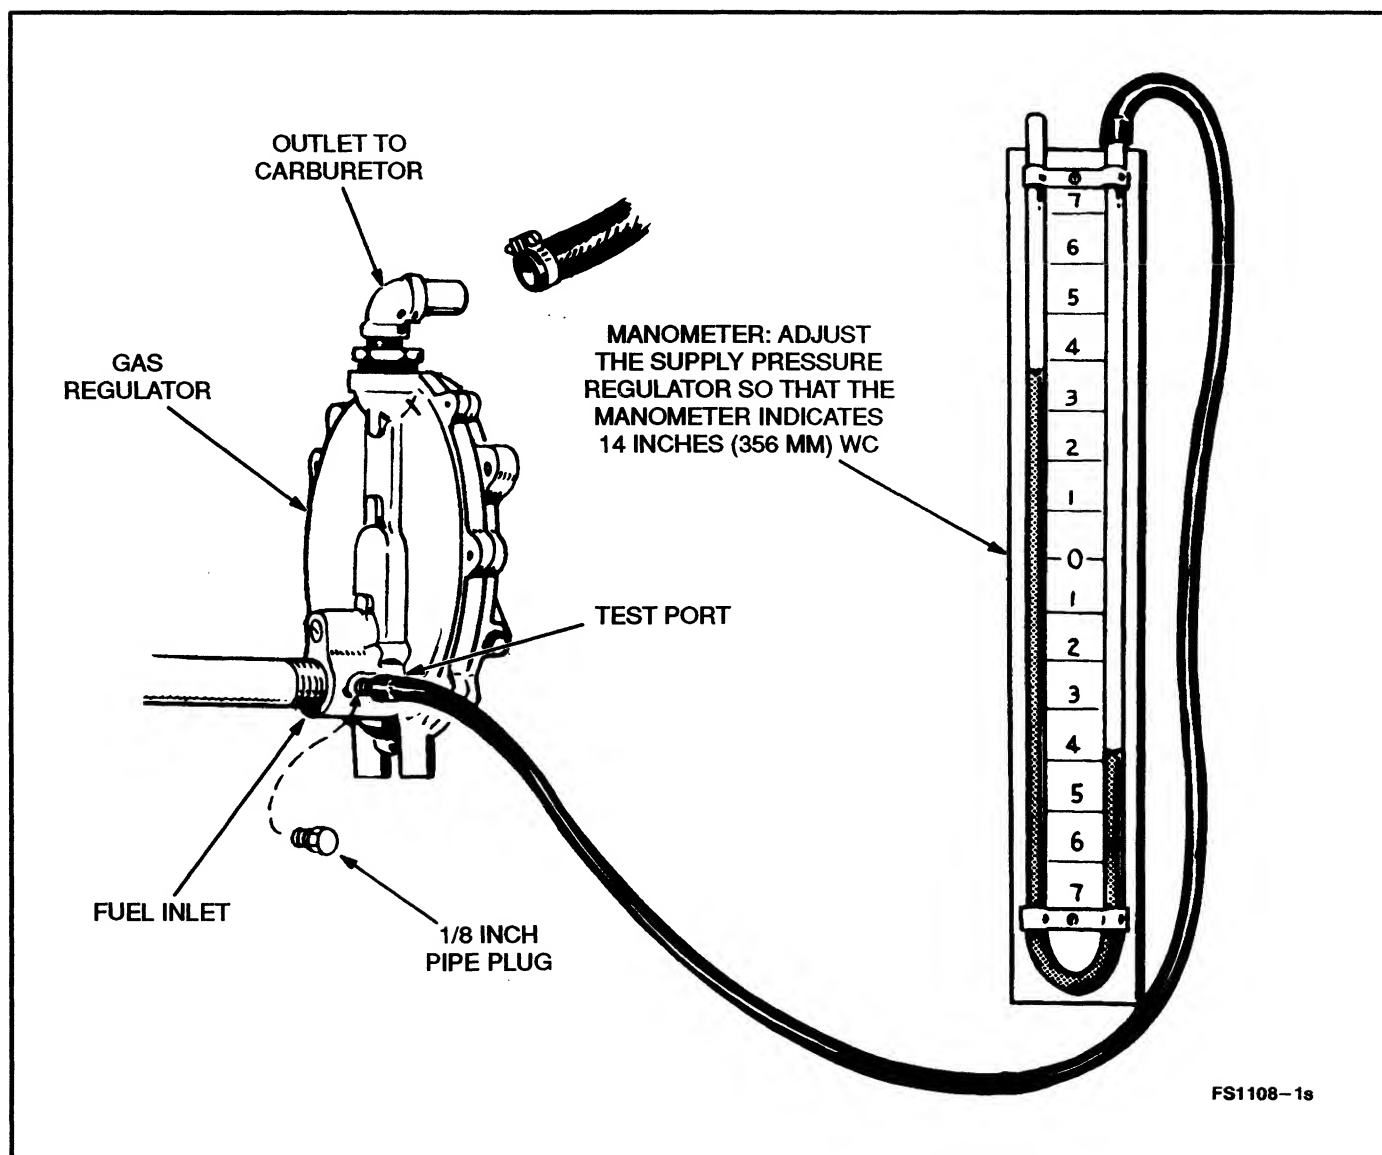

FIGURE 3-4. ADJUSTING THE SUPPLY PRESSURE
A combination gasoline-gaseous fuel carburetor or straight gaseous fuel carburetors are available for use with gaseous fuels. A gaseous fuel system uses a fuel regulator (Figure 3-4) to control the flow of gas from the lines to the carburetor. At the carburetor, the gaseous fuel is mixed with the incoming air.
Gas Pressure: Gas pressure must not exceed 14 inches (356 mm) water column (WC). Measure pressure as shown in Figure 3-4 while cranking the
Recommended gas pressure with the set running under full load is 7 to 10.5 inches (178 mm to 254 mm) WC, as measured in Figure 3-4. Minimum acceptable pressure is 3.5 inches (89 mm) WC. Adjust the primary regulator as necessary, but not so that the maximum allowable pressure would be exceeded. If the minimum pressure cannot be maintained, either supply tank is too small to provide the rate of vaporization necessary or the supply line is too restrictive.